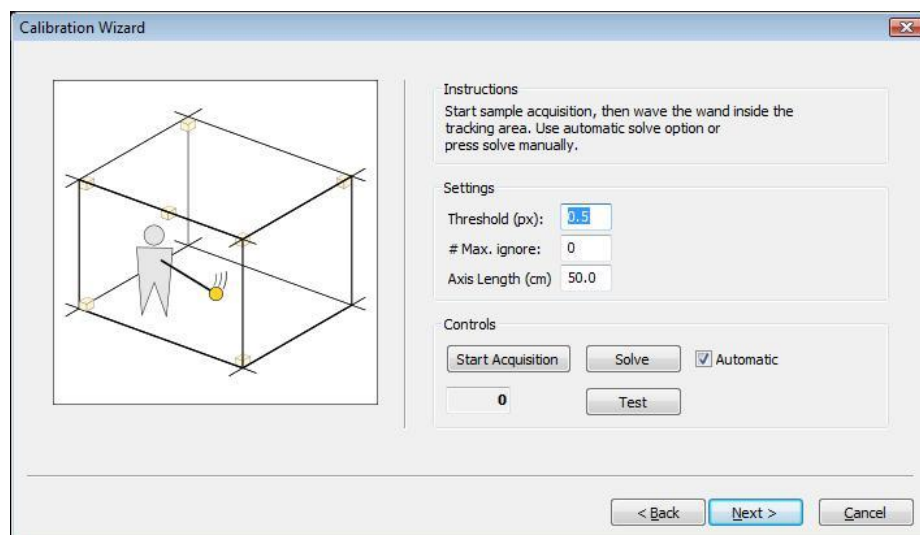

Figure 19 - Camera Calibration 2 – Acquire Wand Points
Step 2 – Acquire Wand Points: you will see Figure 19 - Camera Calibration 2 – Acquire Wand Points. This is where you will move the wand in the calibration space and the system can calibrate positions of the cameras.